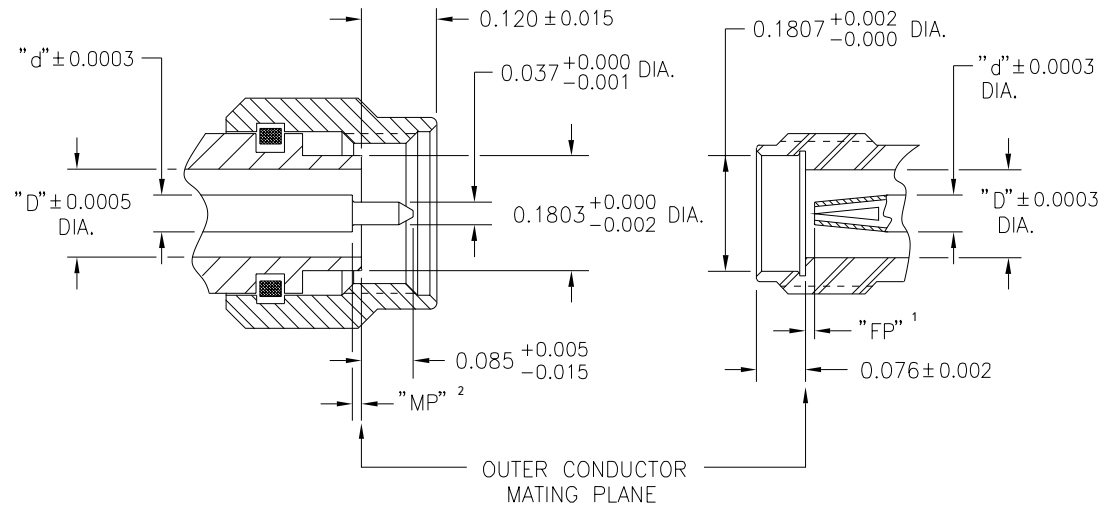

Figure 1. Critical Contact Pin Location
The critical contact pin locations of 3.5mm and 2.92mm female and male precision connectors are shown in Figure 1. These dimensions must be maintained in order to provide optimum electrical performance and proper mechanical mating of the connectors.
**NOTE:** Minus (–) tolerances indicate a recessed condition from the outer conductor mating plane. Plus (+) tolerances indicate a protruding condition above the outer conductor mating plane. Other dimensions shown in Figure 1 are included because they affect the mating of the gage assembly's gaging mechanisms (bushing and pin). Deviation from these dimensions may cause measurement errors or improper fit between the gaging mechanisms and the connectors being measured. Consult our Customer Service department on measuring connectors with interface dimensions other than those specified above.